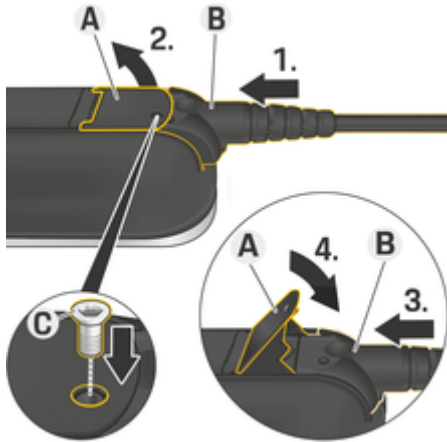

Fig. 12: Securing cables and plugs
✓ The lever **A** (Fig. 12) is closed.
1. Insert the plug **B** (Fig. 12) into the control unit until resistance is first felt.
2. Lift the lever **A** (Fig. 12).
3. Push in the plug **B** (Fig. 12) fully.
4. Close the lever **A** (Fig. 12).
5. Secure the plug **B** (Fig. 12) to the control unit using screw **C** (Fig. 12).